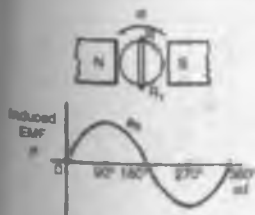
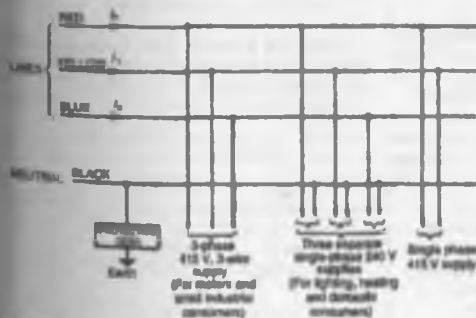

Figure 20.1
Figure 20.5
The voltage induced by a single coil when rotated in a uniform magnetic field is shown in Fig. 20.1 and is known as a **single-phase voltage**. Most consumers are fed by means of a single-phase a.c. supply. Two wires are used, one called the live conductor (usually coloured red) and the other is called the neutral conductor (usually coloured black). The neutral is usually connected via protective gear to earth, the earth wire being coloured green. The standard voltage for a single-phase a.c. supply is 240 V. The majority of single-phase supplies are obtained by connection to a three-phase supply (see Fig. 20.5, page 289).
- (vii) The star connection of the three phases of a supply, together with a neutral conductor, allows the use of two voltages – the phase voltage and the line voltage. A 4-wire system is also used when the load is not balanced. The standard electricity supply to consumers in Great Britain is 415/240 V, 50 Hz, 3-phase, 4-wire alternating current, and a diagram of connections is shown in Fig. 20.5